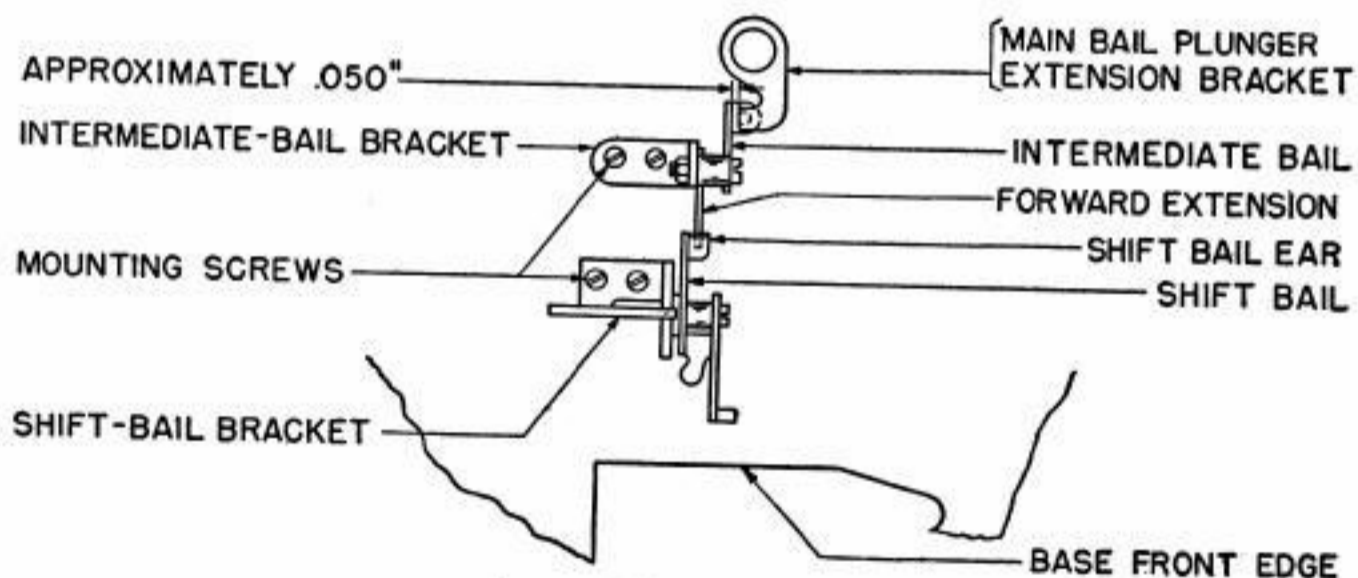

Fig. 31
2.46 **Shift-Bail Bracket:** The front surface should be parallel to the front edge of the recessed portion of the base. **Fig. 31**